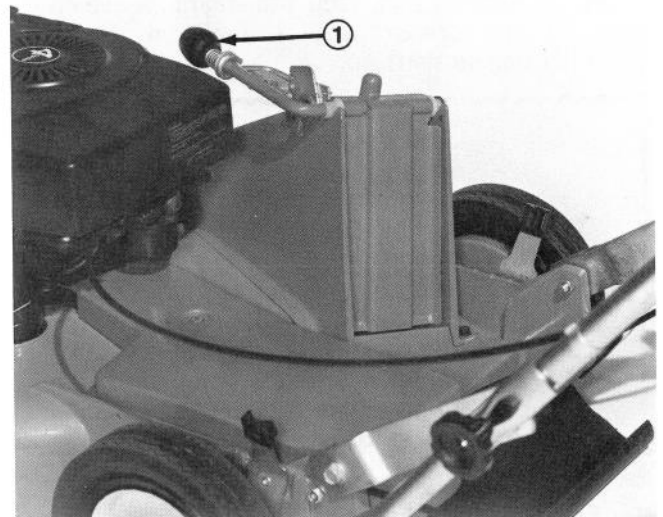

Figure 16
2. Be sure chute door handle is fully forward and lockout lever is released into catch (Fig. 16). The chute door is now closed.